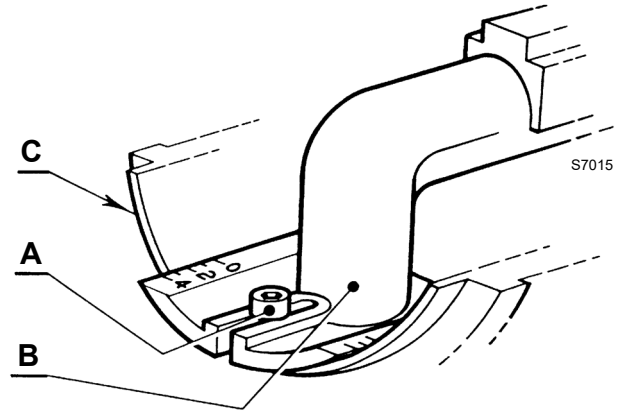

Fig. 11
- loosen the screw A) (Fig. 11), move the elbow B) so that the rear plate of the coupling (C) coincides with the set point;